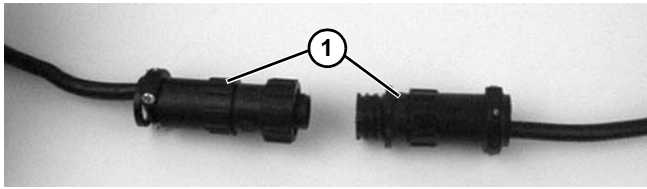

Figure 41
3. For DC variable speed motor, unplug motor cord at disconnect (**Figure 41, item 1**).